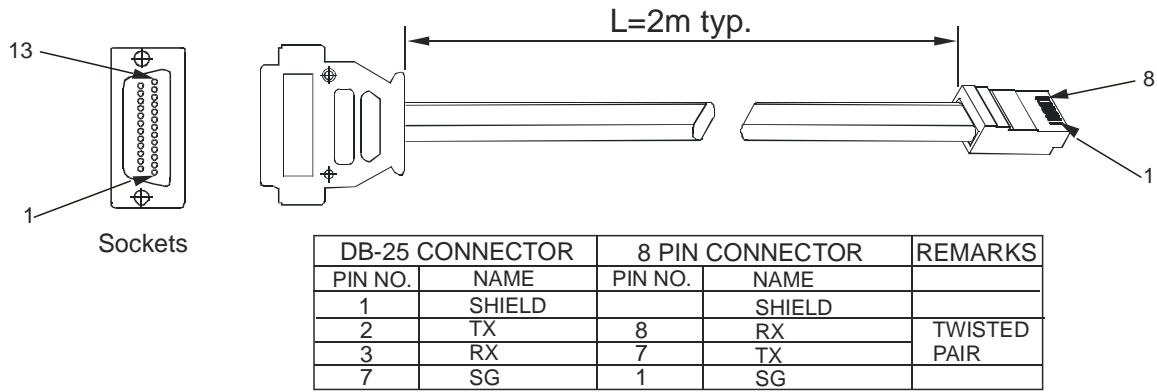

Fig.7-2: RS232 cable with DB25 connector (P/N: GEN/232-25)
- b) Connect rear panel IN connector to the controller RS232 or RS485 port using a suitable shielded cable. Refer to Figures 7-2, 7-3 and 7-4 for available RS232 and RS485 cables.